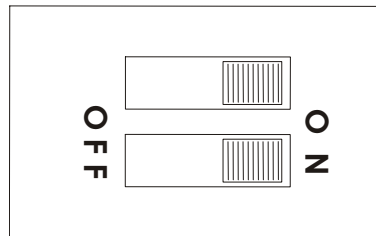

Figure 8-3 12V DO Dipswitch
- 3) Carefully remove the plastic wrap covering from the S3 dipswitch (see Figure 8-3) on the DO module board. Note: Ignore text on the board that OFF/OFF is the factory default.